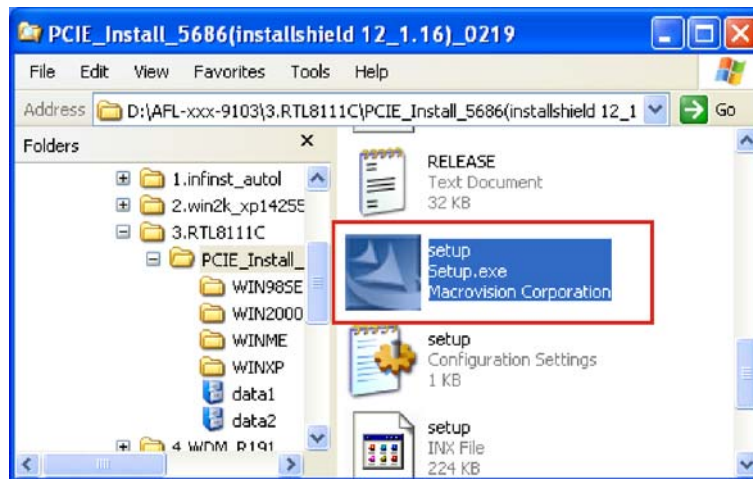

Figure 6-14: Gigabit Ethernet Driver Installation
Step 2: The browser window appears (Figure 6-14).
Step 3: Double-click the **Setup** icon to start the Gigabit Ethernet driver installation wizard (Figure 6-14).